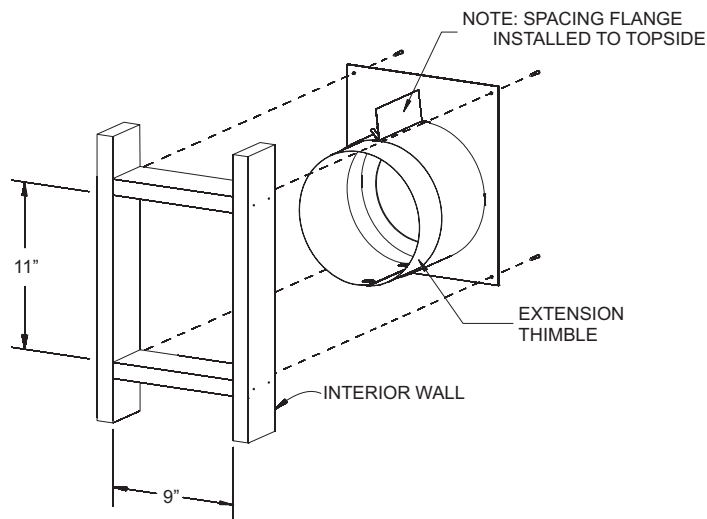

Figure 44
2. Cut hole in wall for wall thimble/firestop assembly (**Figure 44**) into your combustible wall. Note: On brick or block exterior wall a 7" (178mm) diameter hole needs to be cut.
Measure the total wall thickness to determine whether or not the extension thimble is to be used. If the combustible wall depth is over 5 3/8" (137mm), then the extension thimble should be used (**Figure 44**).
3. Install the wall thimble assembly through the framed opening so the firestop plate is on the interior wall (**Figure 44**). Telescope section should extend all the way through the exterior wall. Attach with (4) 10 x 1" screws.